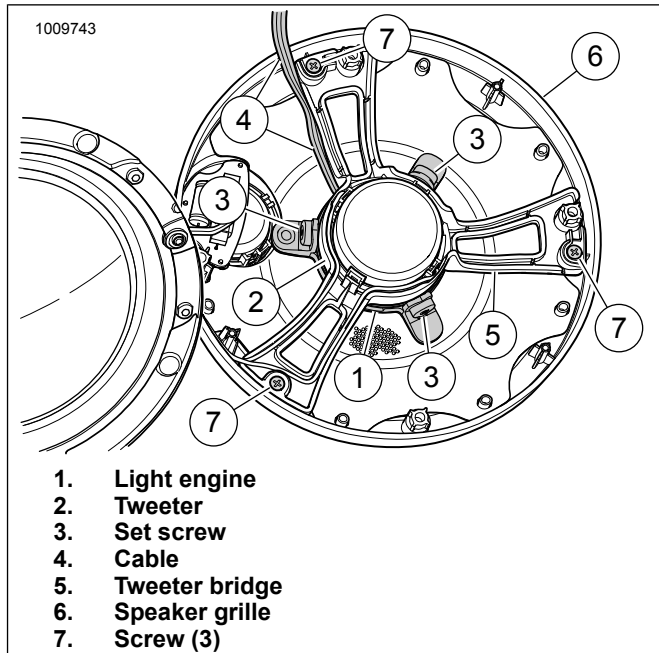

Figure 26. Speaker Grille, Tweeter Bridge and LED Light
See Figure 26. Place light engine (1) on tweeter (2) as shown. Lightly compress light engine in place.